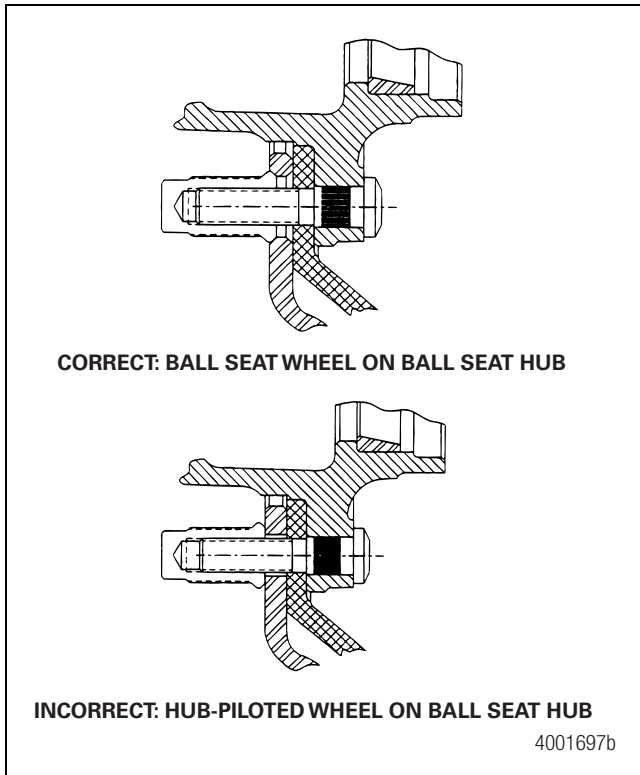
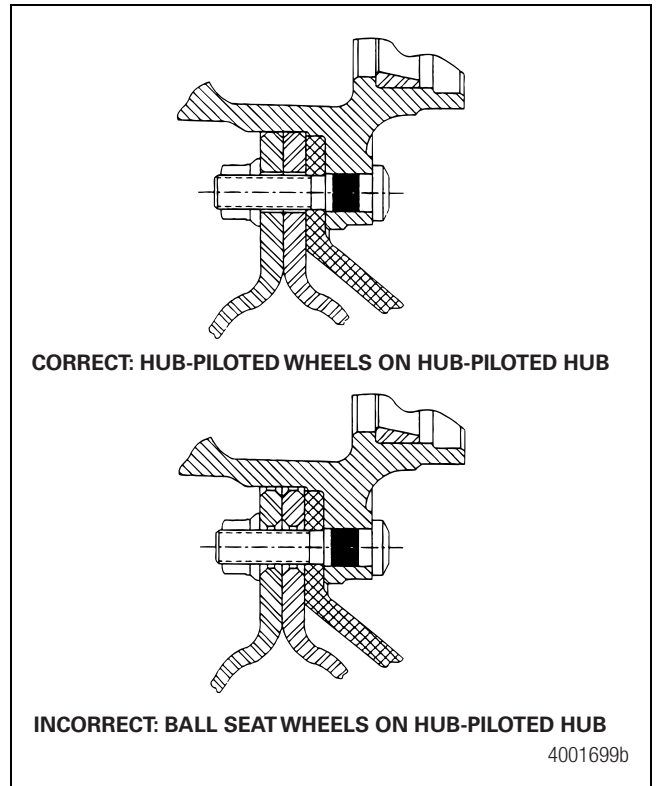

Figure 6.36
Figure 6.37
10. Ensure that the nut and wheel mate correctly. Ensure that you install the correct components onto the wheel systems. Figure 6.36 and Figure 6.37.